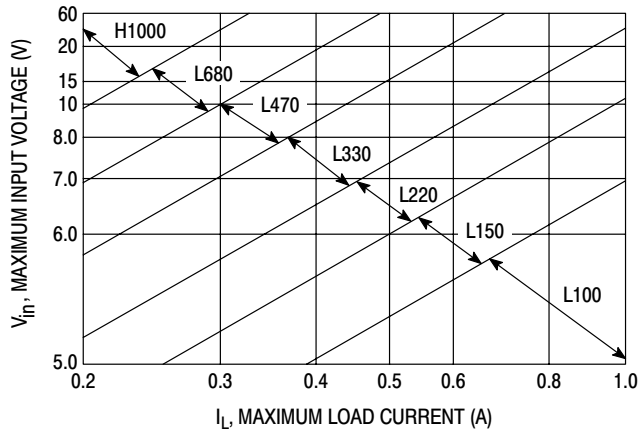

Figure 17. LM2575-3.3
4. Inductor Selection (L1) A. According to the required working conditions, select the correct inductor value using the selection guide from Figures 17 to 21. B. From the appropriate inductor selection guide, identify the inductance region intersected by the Maximum Input Voltage line and the Maximum Load Current line. Each region is identified by an inductance value and an inductor code. C. Select an appropriate inductor from the several different manufacturers part numbers listed in Table 1 or Table 2. When using Table 2 for selecting the right inductor the designer must realize that the inductor current rating must be higher than the maximum peak current flowing through the inductor. This maximum peak current can be calculated as follows: $I_{p(max)} = I_{Load(max)} + \frac{(V_{in} - V_{out}) t_{on}}{2L}$ where $t_{on}$ is the “on” time of the power switch and $t_{on} = \frac{V_{out}}{V_{in}} \times \frac{1}{f_{osc}}$ For additional information about the inductor, see the inductor section in the “External Components” section of this data sheet.	4. Inductor Selection (L1) A. Use the inductor selection guide shown in Figures 17 to 21.  B. From the selection guide, the inductance area intersected by the 20 V line and 0.8 A line is L330.  C. Inductor value required is 330 $\mu$ H. From the Table 1 or Table 2, choose an inductor from any of the listed manufacturers.
To simplify the inductor selection process, an inductor selection guide for the LM2575 regulator was added to this data sheet (Figures 17 through 21). This guide assumes that the regulator is operating in the continuous mode, and selects an inductor that will allow a peak-to-peak inductor ripple current to be a certain percentage of the maximum design load current. This percentage is allowed to change as different design load currents are selected. For light loads (less than approximately 200 mA) it may be desirable to operate the regulator in the discontinuous mode, because the inductor value and size can be kept relatively low. Consequently, the percentage of inductor peak-to-peak current increases. This discontinuous mode of operation is perfectly acceptable for this type of switching converter. Any buck regulator will be forced to enter discontinuous mode if the load current is light enough.